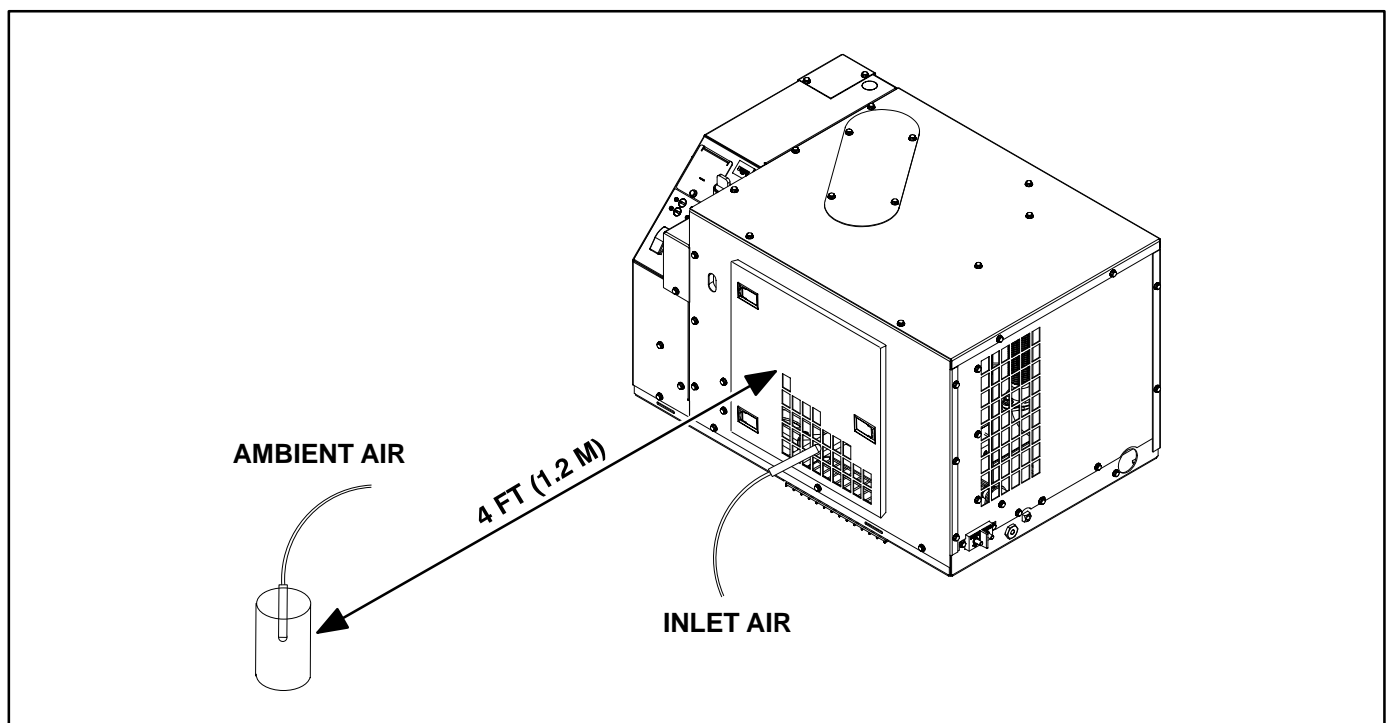

FIGURE 16. THERMOCOUPLE LOCATIONS FOR HOT AIR RECIRCULATION TEST
- A. Measure genset inlet air temperature with one thermocouple tied in the middle of the inlet air grille (Figure 16).